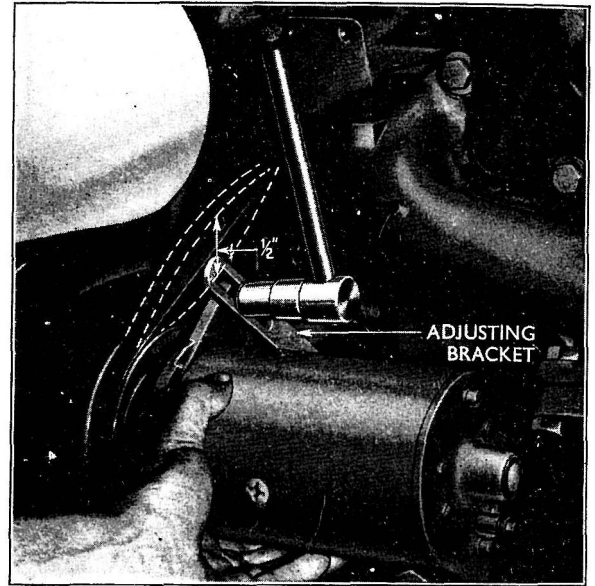

Fig. 53
10. Refit the generator and fan belt and adjust to give the correct fan belt tension of  $\frac{1}{2}$  in. (12.7 mm.) free movement measure midway between the generator and fan pulleys (see Fig. 53).